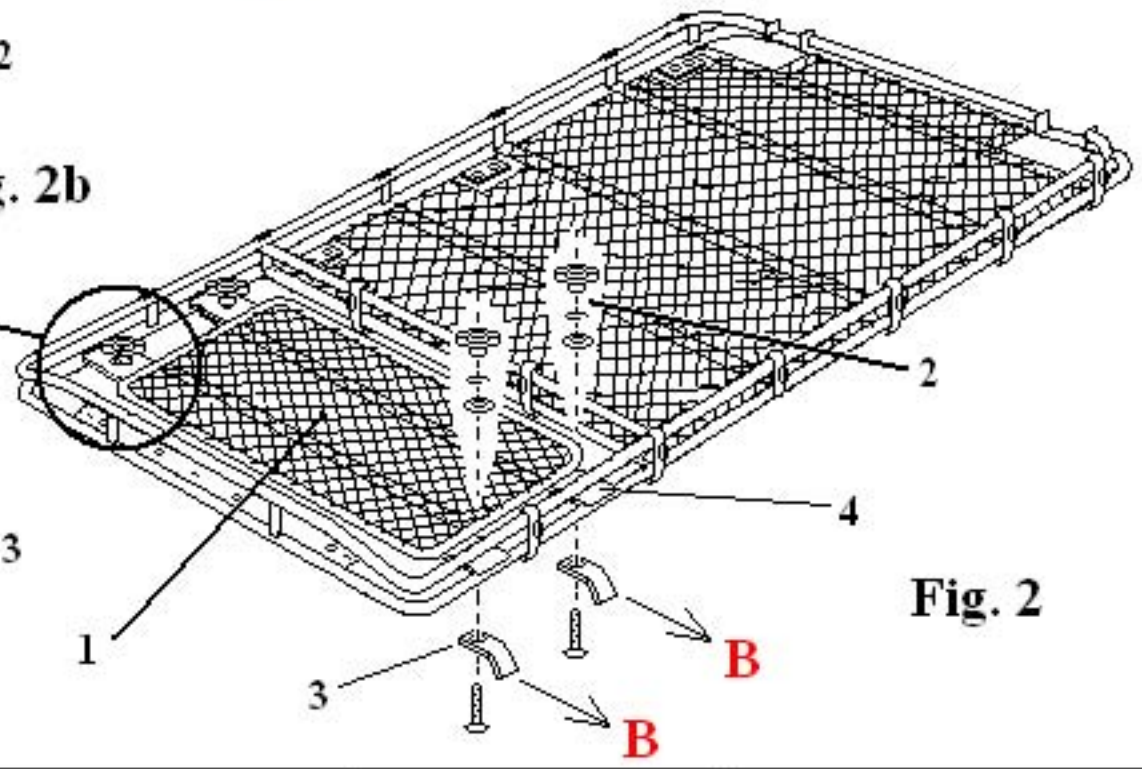

Fig. 2
- 4- Refer to page 3 Fig. 1a, Fig. 1, Fig. 2 and Fig. 2b begin by carefully sliding the flat ears #4 of the H3 insert #1 in between the upper and lower roof rack tubing positioned over the sun roof area of the roof rack as shown using guiding arrows "A". Make certain the ears #4 are resting on the lower roof rack tubing as shown in Fig. 2 and Fig. 2b. Then slide the opposite end of the H2 insert in between the same tubing sections but the opposing side in the same manner.
- 5- After both ears #4 are resting on the lower roof rack tubing as shown in Fig. 2 and Fig. 2b both sides equally. Place both steel wedge clamps #3 which were removed earlier back under ears #4 of the sun roof insert #1 as shown in Fig. 2 and Fig. 2b. Then using the 3/8" carriage bolts, washers, lock washers and plastic knobs #2 snug all 4 knobs making certain that the steel clamp wedges #3 are facing outward away from the sides of the vehicle and under the lower roof rack tubing as shown in Fig. 2 in the direction of arrows "B" then fully tighten all four knobs making certain that the H2 insert #1 is completely secured and clamped in place.